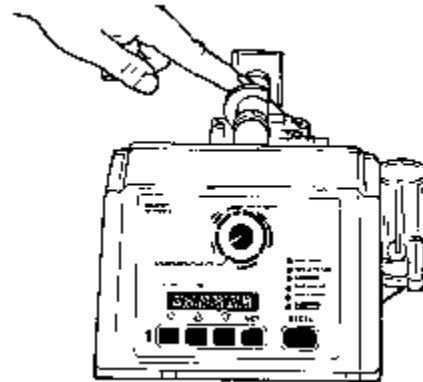
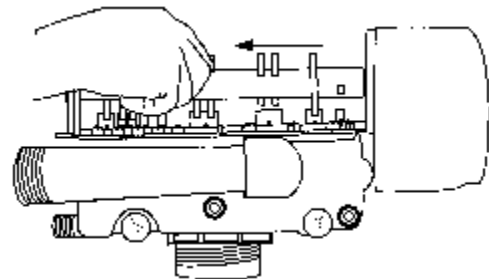

Figure 12
Figure 13
5. Remove the camshaft or to reinstall it, the arrow on the rear of the camshaft must be pointing at the line on the rear "hoop" of the top plate. This occurs when the cycle indicator is rotated to the refill position. Press down on the back of the camshaft to disengage it from the rear "hoop" of the top plate, Figure 12. Slide the camshaft back to disengage it from the timer, Figure 13.